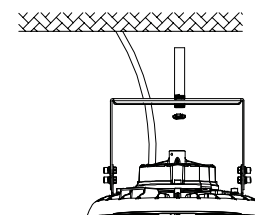

Figure 10
3. Securely tighten the nuts (see Figure 10).